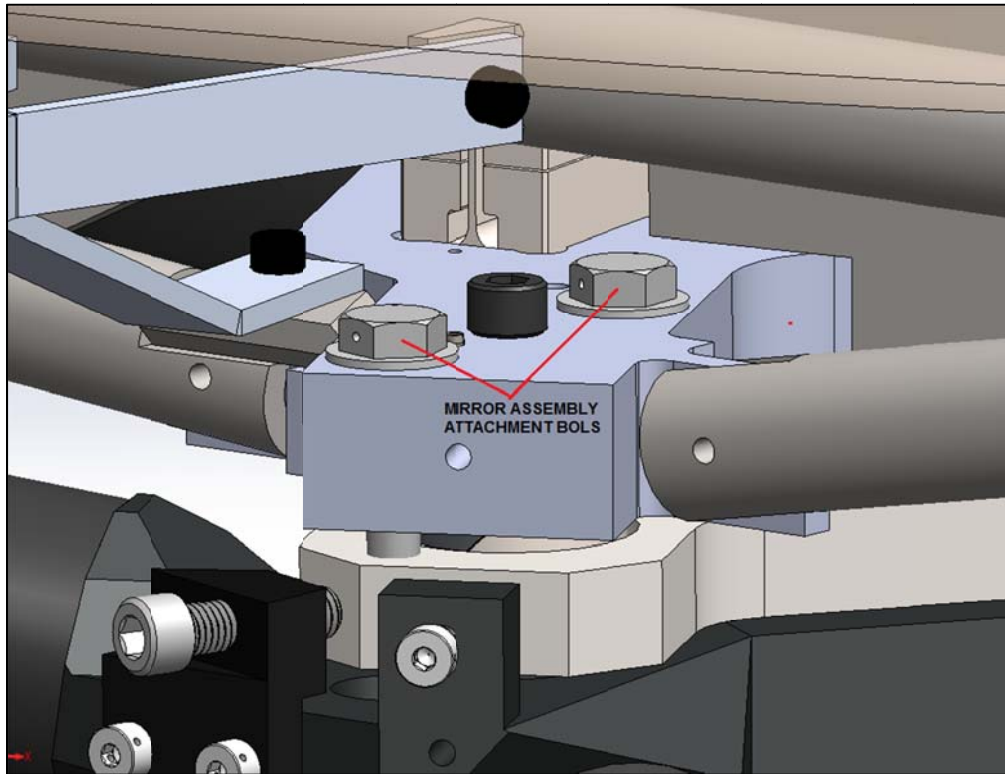

Figure 3 - Off axis Mirror Assembly attachment HW. Bolts are drilled head for safety wire after final alignment.
- 2.6 Tighten HW as per assembly drawing 872-LM4700 – see Figures 3 and 4